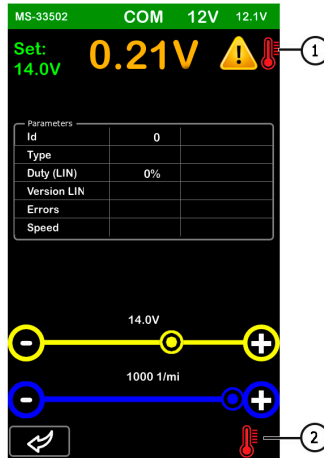

Figure 14
2. In the event of voltage regulator overheating, the following icons will appear (see Fig. 14).